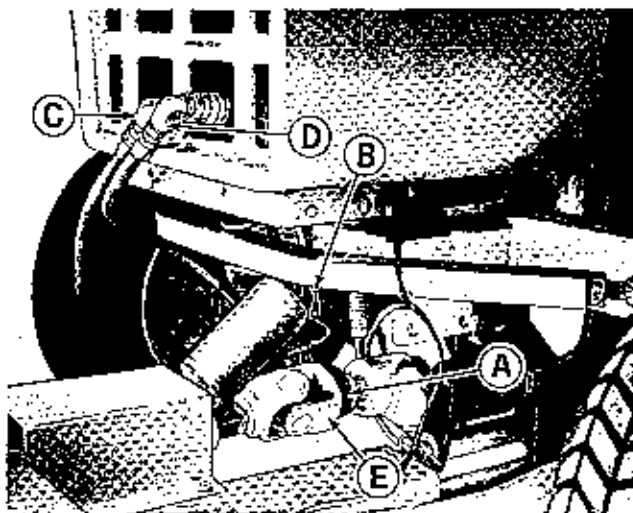

Figure 7. Hydraulic lift cylinder installed.
9. See figure 7. Attach hydraulic line (C) which goes to the piston end (Stationary part of the hydraulic cylinder) as shown. Attach hydraulic line (D) which goes to the rod end or moveable part of the hydraulic cylinder. Attach the piston end of the hydraulic cylinder to the hitch assembly at (B) using a pin and spring clip. It may be helpful in doing this to extend the hydraulic cylinder by moving the tractor hydraulic lift lever to the LOWER position while the tractor engine is idling. **CAUTION: DO NOT START THE TRACTOR ENGINE WITHOUT AN OPERATOR IN THE TRACTOR SEAT.**
11. See figure 7. Pull back (toward the snow thrower) on locking collar (A) so it is positioned as shown. Slide drive shaft (E) onto the spline.
4. See figure 7. Pull forward (toward the snow thrower) on locking collar (A) to release the drive shaft lock. Then pull forward on the drive shaft at (E) to remove it from the spline shaft.
5. See figure 7. Remove the pin and spring clip at (B) to release the hydraulic cylinder from the hitch assembly. Disconnect the hydraulic lines at (C) and (D).